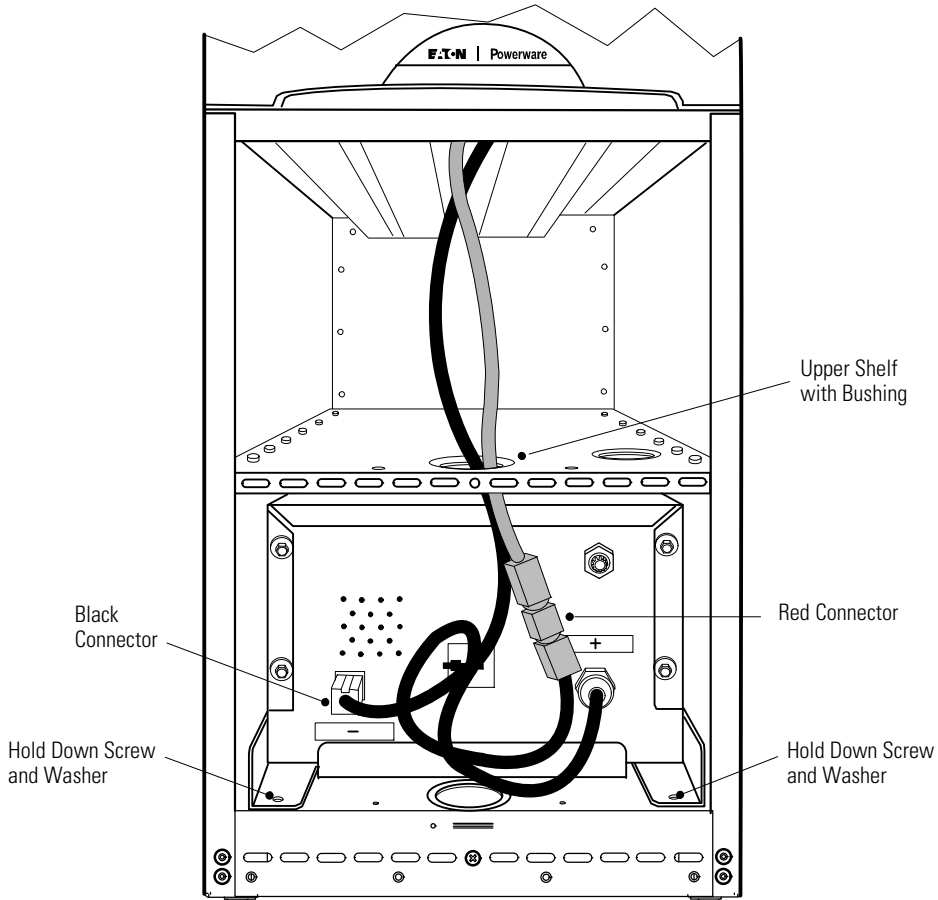

Figure 27. Ultracapacitor Module Installed in Cabinet
5. Install the ultracapacitor module as shown in Figure 27. Ensure the unit is firmly seated against the stops at the rear of the cabinet. Verify that the holes on the mounting frame line up with the holes in the cabinet rails.
6. Secure the ultracapacitor module to the frame, using 2 screws and washers. See Figure 27.
7. Connect the wires from the electronics module (already routed to the front of the UPS) to the ultracapacitor module terminals, as described below (see Figure 27):